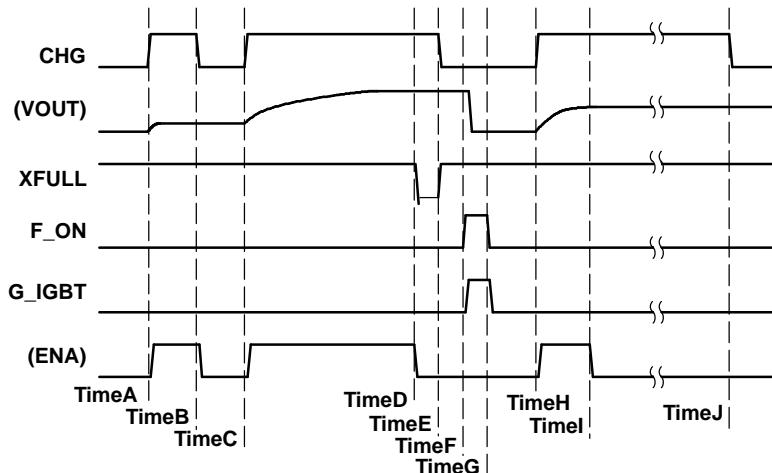

Figure 4. Whole Operation Sequence Chart
The only way to *start* charging is to input $CHG \uparrow$ (see time A/C/H in Figure 4). Each time $CHG \uparrow$ is reached, the TPS65552A starts charging.
1. Forced *stop* by inputting $CHG = L$ from the controller (see timeB in Figure 4).
2. Automatic *stop* by detecting full charge. V_{OUT} reaches the target value (see TimeD in Figure 4).
3. Protected *stop* by over V_{DS} detection (see Timel in Figure 4).
The device starts charging at *timeH*, and over V_{DS} protection occurs at *Timel* (see Figure 4). At *timel*, XFULL stays H, and the controller detects over V_{DS} protection when the timer ends at *timeJ*. In this event, the controller inputs $CHG = L$ to terminate the operation.
The IGBT driver provided by the TPS65552A is a simple buffer in the logical table. Table 3 shows the function (see Figure 4).
To avoid the stress of power dissipation, the TPS65552A provides an overvoltage monitor function at the SW terminal. If this protection occurs, the overvoltage status is latched (see Figure 4 and its descriptions).